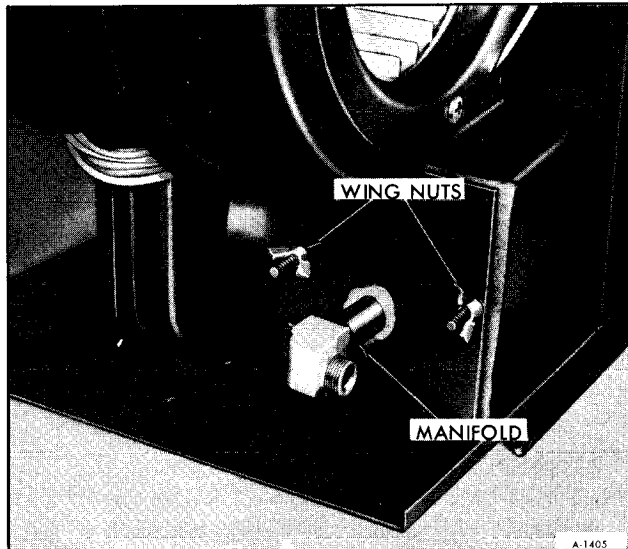

Figure 39—Wing Nuts at Rear of Burner
3. Remove wing nuts from rear of burner compartment (See figure 39).
3. Secure with wing nuts at rear of burner compartment (figure 39).
3. Remove wing nuts from burner compartment door (figure 39).
4. Secure burner assembly with two wing nuts (figure 39).